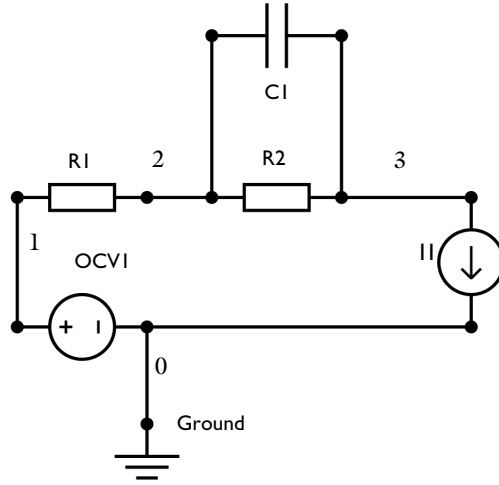

Figure 1: Equivalent Circuit diagram used for modeling the Ni-MH battery. The numbers denote the node numbers in the Battery Equivalent Circuit interface.
Figure 1 represents the equivalent circuit used in this simulation. The series resistance (R1) represents the ohmic resistance and the RC couple (a resistor-R2 and capacitor-C1 connected in parallel) represents the charge transfer polarization process. The time constant for the RC couple is assumed to be 15 s. The Battery Open Circuit Voltage node (OCV1) requires the battery open circuit voltage data, E_{OCV} (V), as function of state-of-charge. Initial battery capacity and state-of-charge are also required as inputs for the Battery Open Circuit Voltage node.
The fundamental equations solved in the Battery Equivalent Circuit interface is Kirchhoff's current law. A current balance for each branch node (see Figure 1) is defined as: